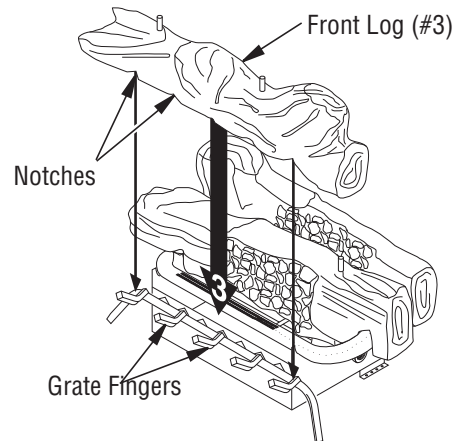

Figure 27 - Installing Front Log (#3) (Base may vary from illustration)
3. Locate the notches in bottom of front log (#3). Place front log on grate fingers. Make sure notches of front log line up with grate fingers (see **Figure 27**).